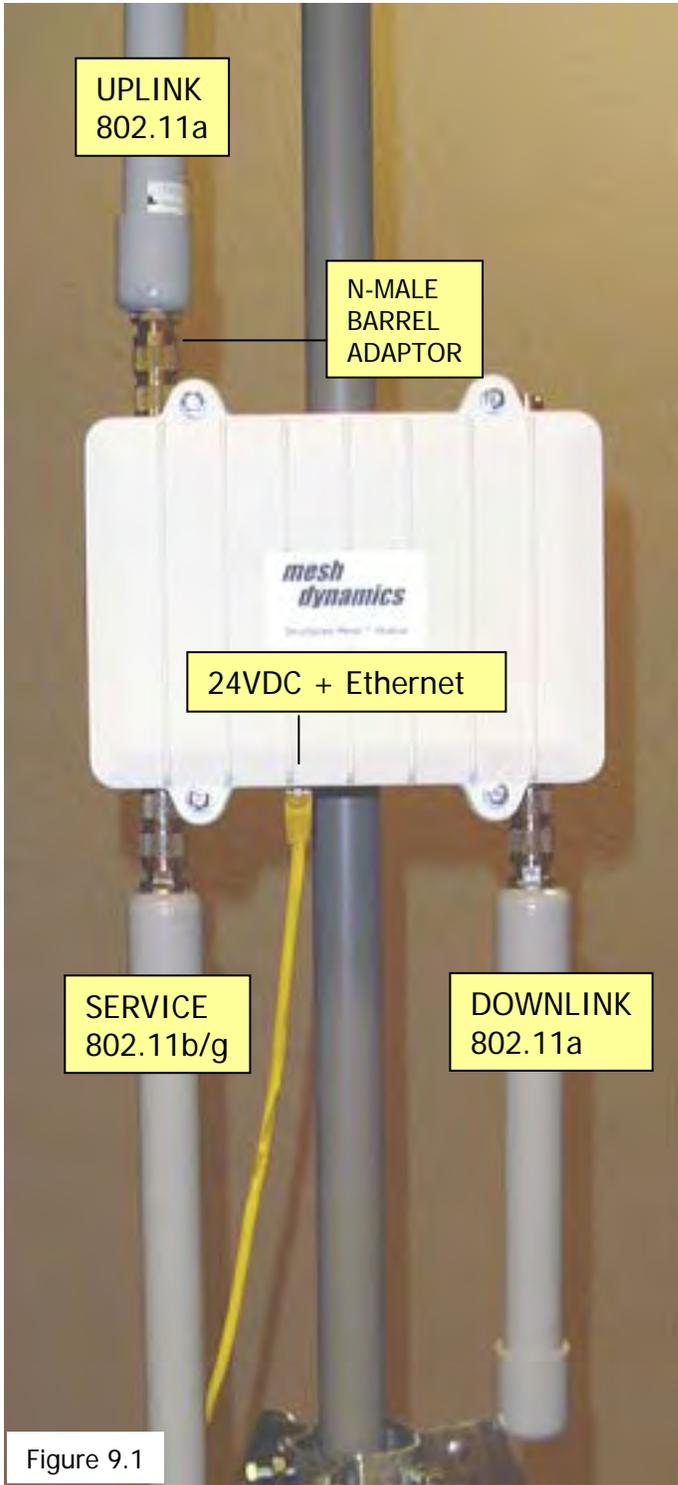

Figure 9.1
Note: Units built after August 2005 have connections on the module as shown in Figures 9.1, 9.2
- The antenna placement for the uplink and downlink on all nodes are as shown in Fig 9.1